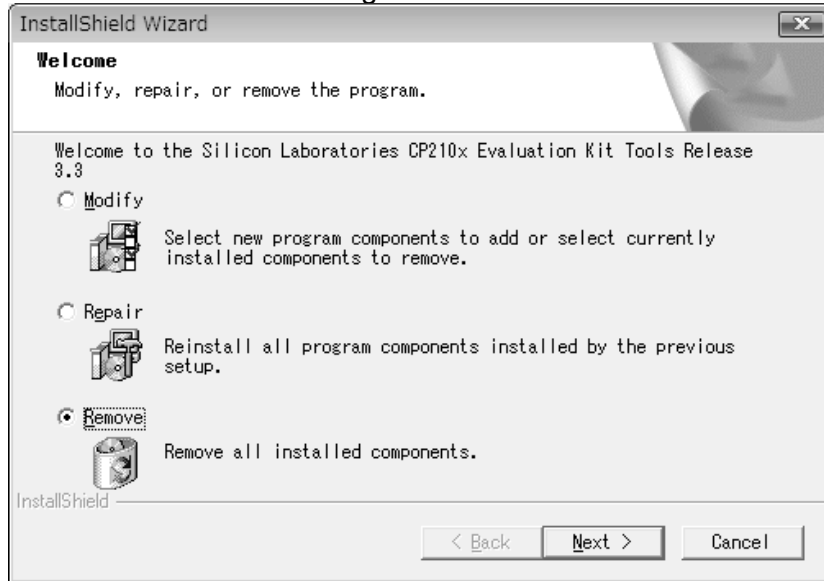

Fig. 86 Uninstallation Screen
(6) Select **Remove** in the screen shown in Fig.86.